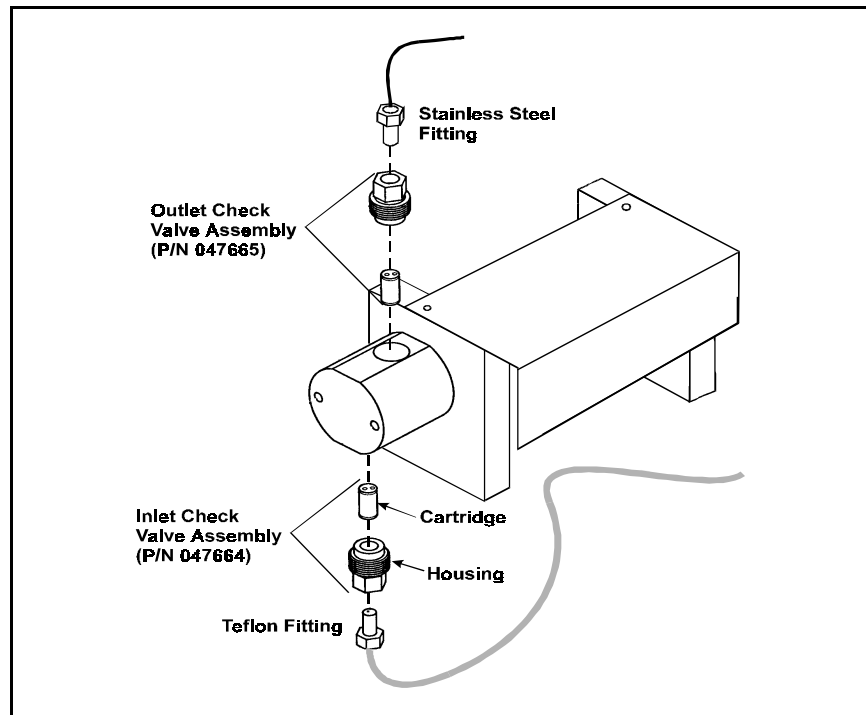

Figure 5-2. Pump Check Valves
3. Use a 1/4-inch wrench to disconnect the stainless steel fitting from the outlet check valve (see Figure 5-2).